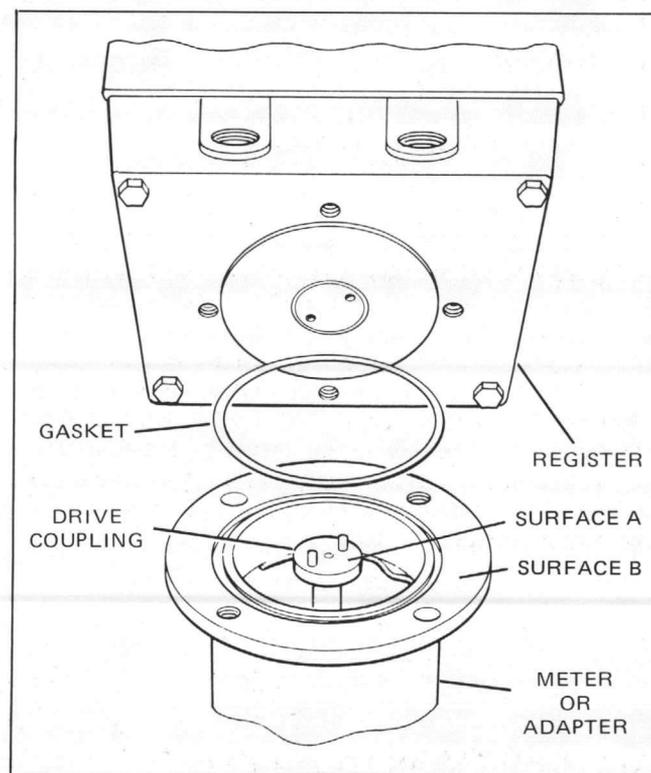

Figure 2-1. Register Mounting
a. **MOUNTING THE REGISTER.** (See Figure 2-1.) The register mount will fit a 3/4 inch hood base. The instrument is mounted with four or two 1/4-20 screws. The mounting holes on existing meters may have to be drilled to 17/64 inch dia. to accept the 1/4 inch screws.
3. Check the position and alignment of pin drive coupling. Surface A must be 3/32" to 1/8" below Surface B (See Figure 2-1). Be sure to tighten the set screw after adjustment.